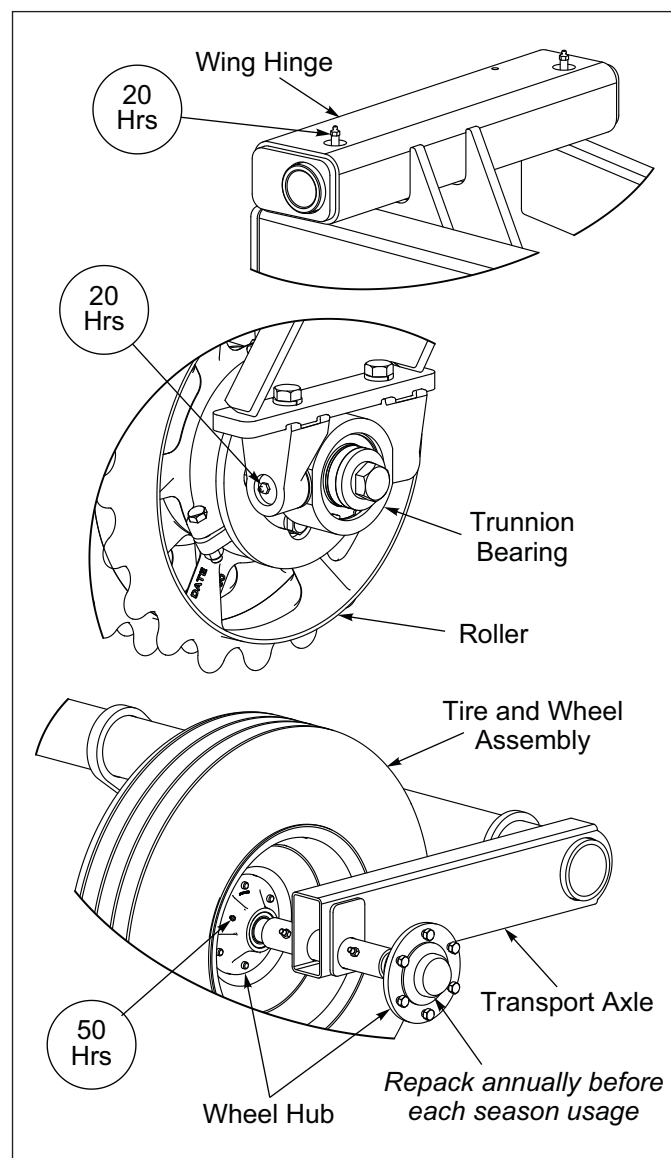

Figure 4-2: Lubrication Intervals
- Lubricate Trunnion Bearings and Hinge Pins with quality grease every 20 hrs or if machine is not used for an extended period. Greasable components are the same on each side. **See Figure 4-2.**